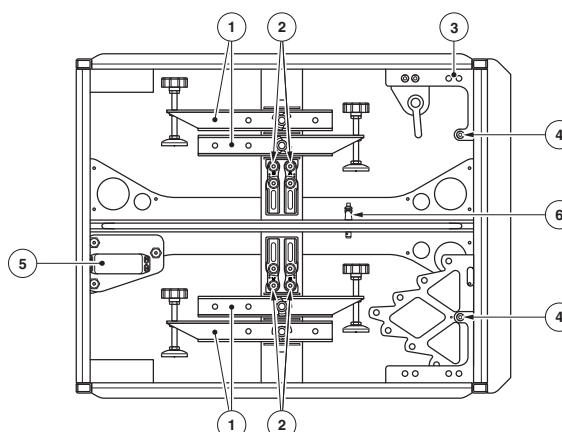

Figure 2.2 - Overview
Attach the rear rigging of the VERA36 loudspeaker with the third locking pin. Use the "connection point" for this ("Figure 2.2 - Overview" on page 3 (pos. 6)).
Attach the VERA S33 loudspeaker at the front and rear to the VERA RF900 rigging frame using a BLS box link set (accessory, see pos. 2, "Figure 2.2 - Overview" on page 3). Connect all VERA S33 loudspeakers (front and rear) with each other via box link sets. Use all locking pins of the BLS box link set.
Attach the VERA S33 loudspeaker at the front and rear to the VERA RF900 rigging frame using a BLS box link set (accessory, see pos. 2, “Figure 2.2 - Overview” on page 3). Connect all VERA S33 loudspeakers (front and rear) with each other via box link sets. Use all locking pins of the BLS box link set.